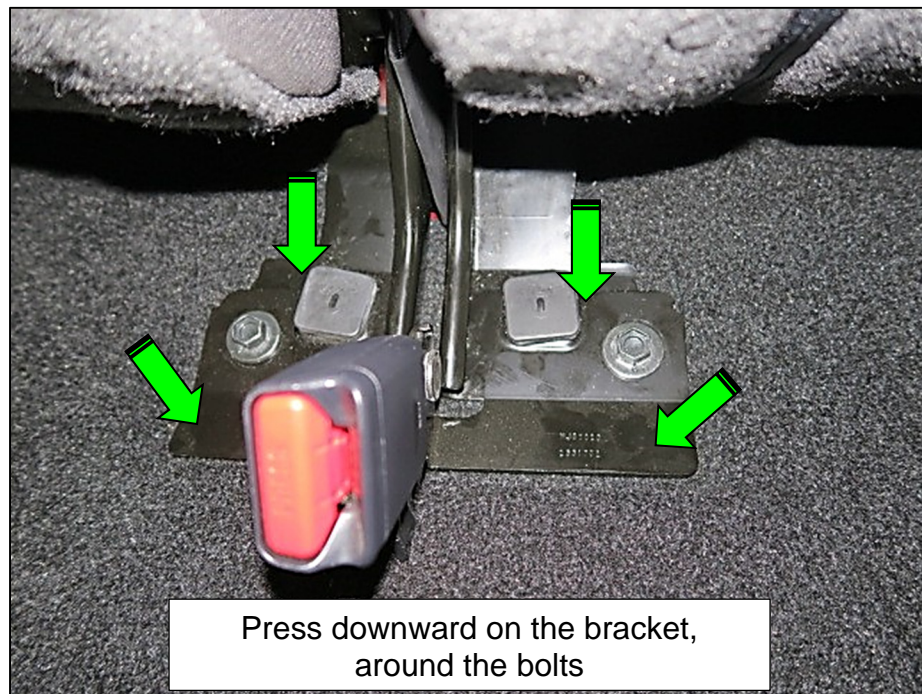

Figure 3
- c. Check for bracket looseness by pushing downward on the seat belt buckle bracket around each bolt (Figure 3).